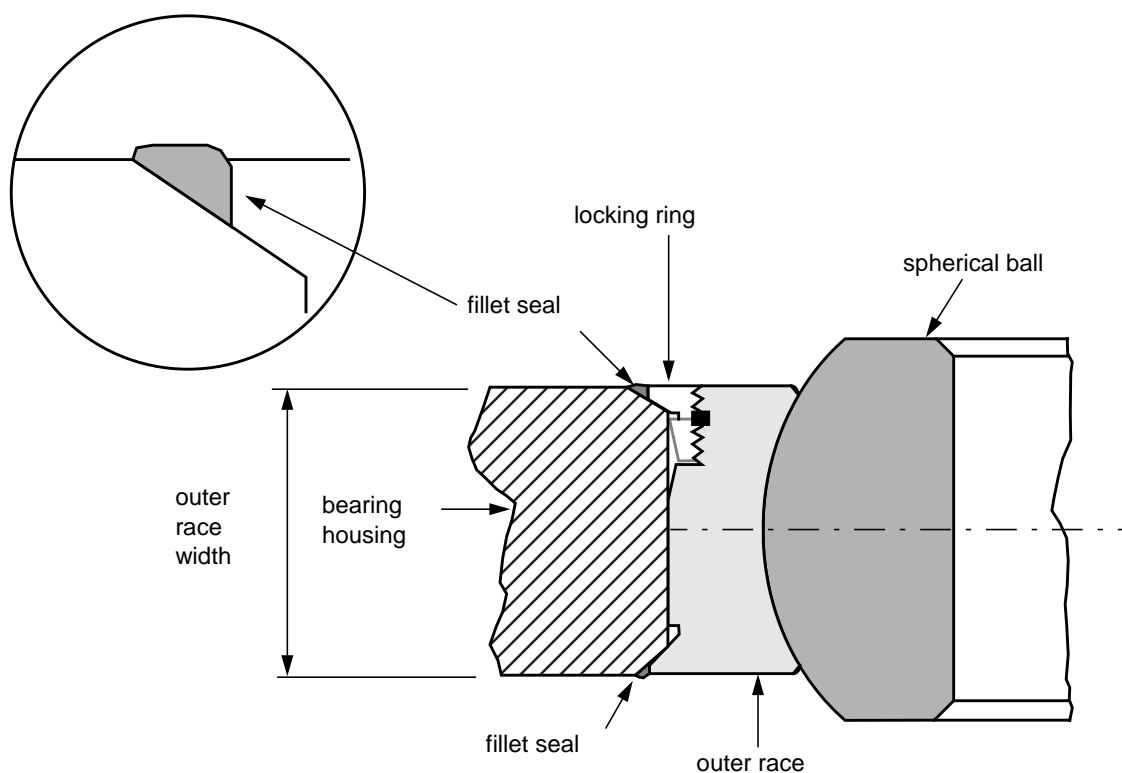

Figure 1 - Fillet Sealing of Bearing and Housing Assembly
- 5.5.1 After assembly and dimensional checks, fillet seal around the perimeter of all assemblies according to PPS 21.16 using sealant to DHMS S 3.01 Type II, Class B1/2 or B2 (see Figure 1).